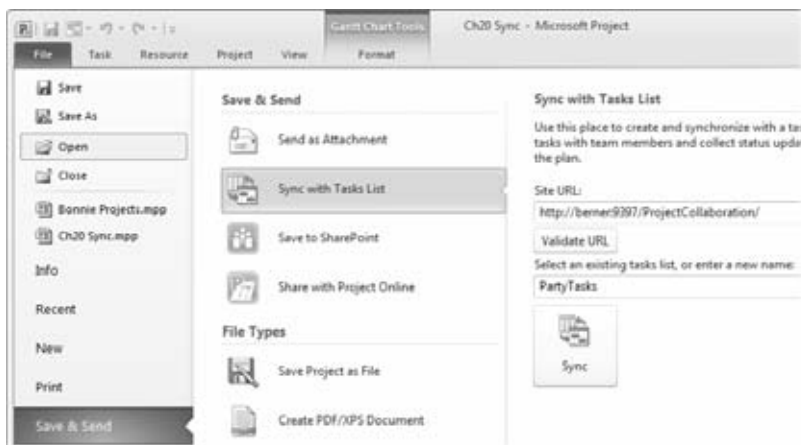

Figure 20-12:
2. In the Site URL box, type the address for the Tasks list site, as shown in Figure 20-12. Click Validate URL.